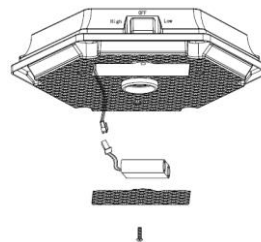

Fig. 4
3. Release the 3 screws on the silver reflector and remove the old batteries (Fig. 4). Make sure the new batteries are high quality –1 x Li-ion Battery Pack (3.2 Volt / 3,000 mAh).